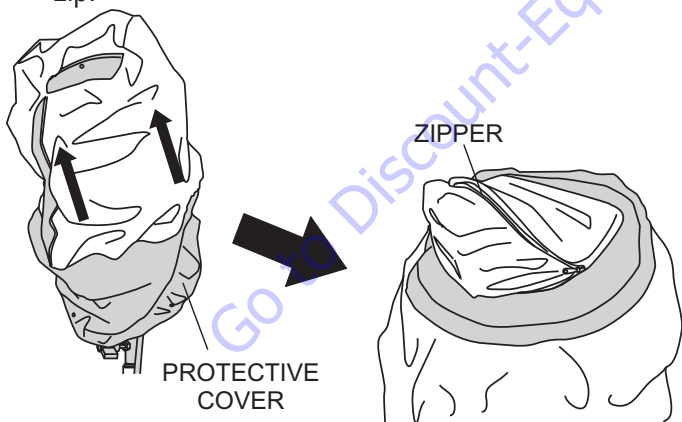

Figure 28. Folding Protective Cover
2. Next, fold the protective cover (Figure 28) into itself and zip.